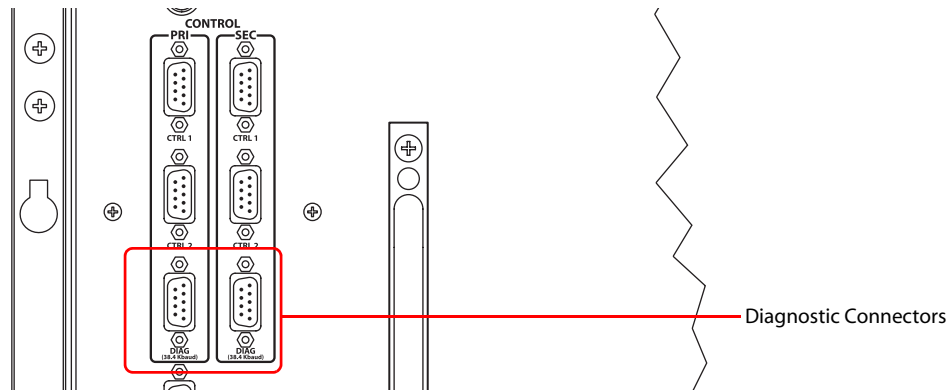

Figure 2-19. Diagnostic Connections (Rear View)
- 1 Locate the diagnostic connections on the rear of the router, as shown in Figure 2-19. The diagnostic connections are labeled 'DIAG'.